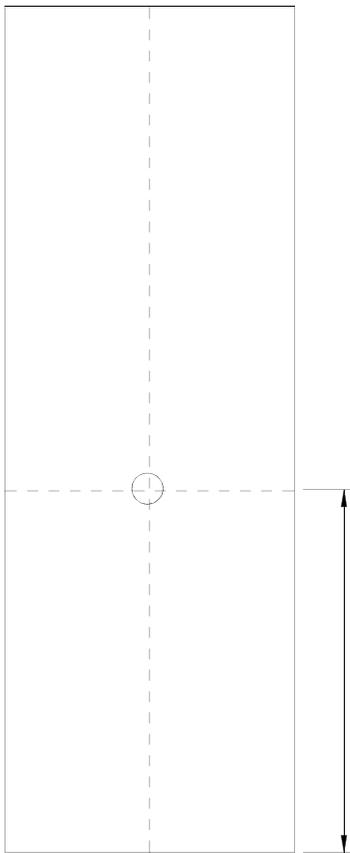

Figure 18: End Panel Cutting Template
- If you choose to use alternative End Panels they are to be the width of the carriage less 2 3/4", and the same height as the Panel Trim Bars (shelving height + 3"). Panel Trim Bars are designed for 3/4" thick panels. Using a hole saw drill a 3 1/8" diameter hole in the laminate panel. The centre of the hole should be 33 7/8" from the bottom of the laminate panel, and centered from left to right. (See Figure 18)